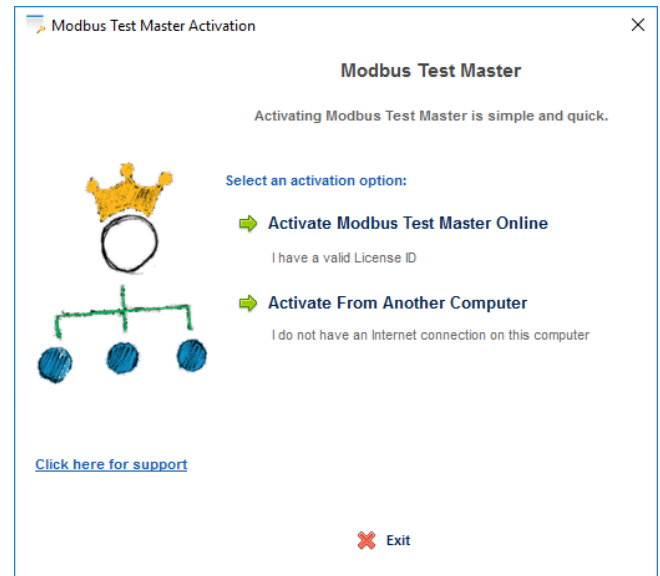

Figure 4: Activate licence.
2. **Activate Modbus Test Master** – to activate Modbus Test Master, you must be online, and already have a licence ID and password. If you do not have an internet connection, Modbus Test Master can be activated through another online machine. Follow instructions in the dialog. Figure 4.